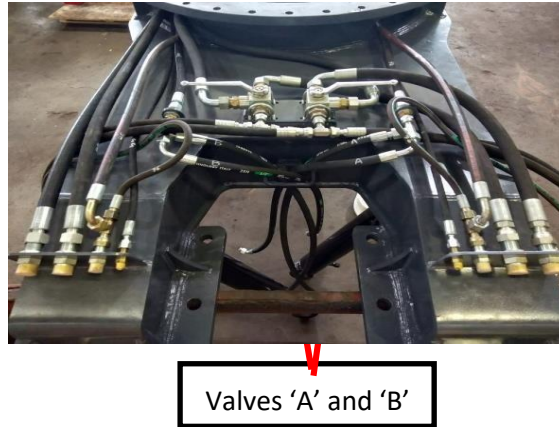

Figure 3.6: Spud ball valve position on the rear slewing frame
- 1) Open the 3/4" three-way valves 'A' and 'B', located at the rear of the slewing frame to activate the spud system. Refer to Figure 3.6.